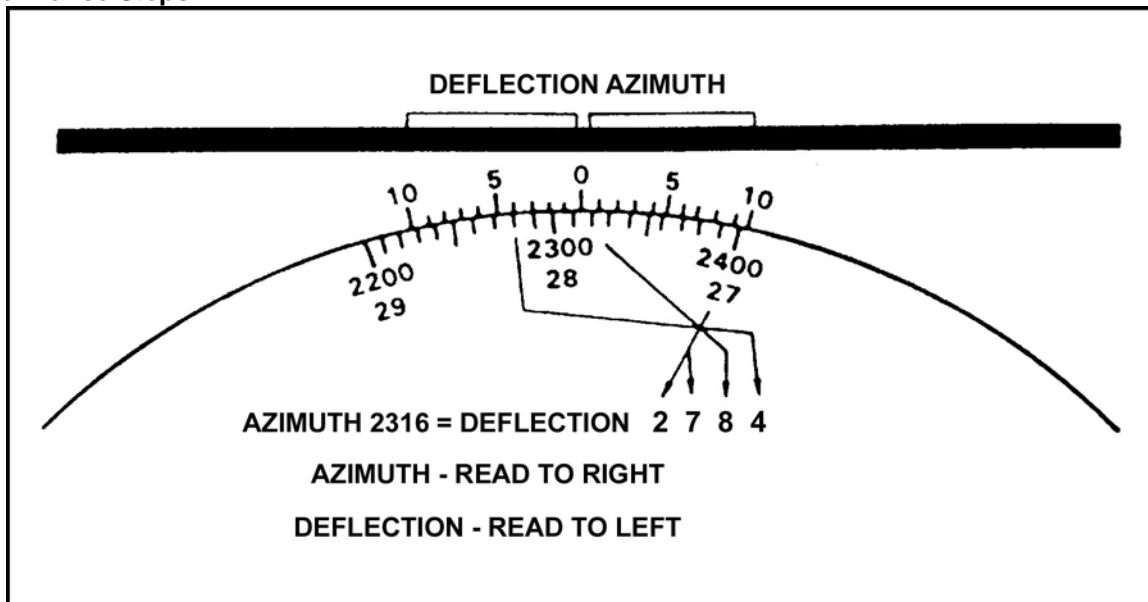

Figure 2. Deflection Determination
- b. Determine deflection. To determine the deflection for the first round, keep the direction of fire indexed and read the deflection as follows (Figure 2):